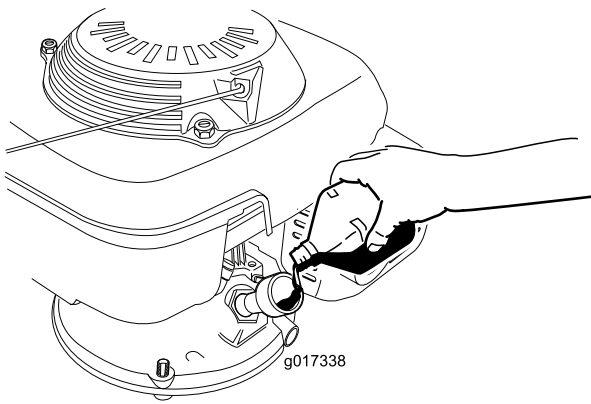

Figure 8
3. **Slowly** pour oil into the oil-fill hole, wait 3 minutes, and check the oil level on the dipstick by wiping the dipstick clean and then inserting, **but not screwing in**, the oil-fill cap into the hole (Figure 8).